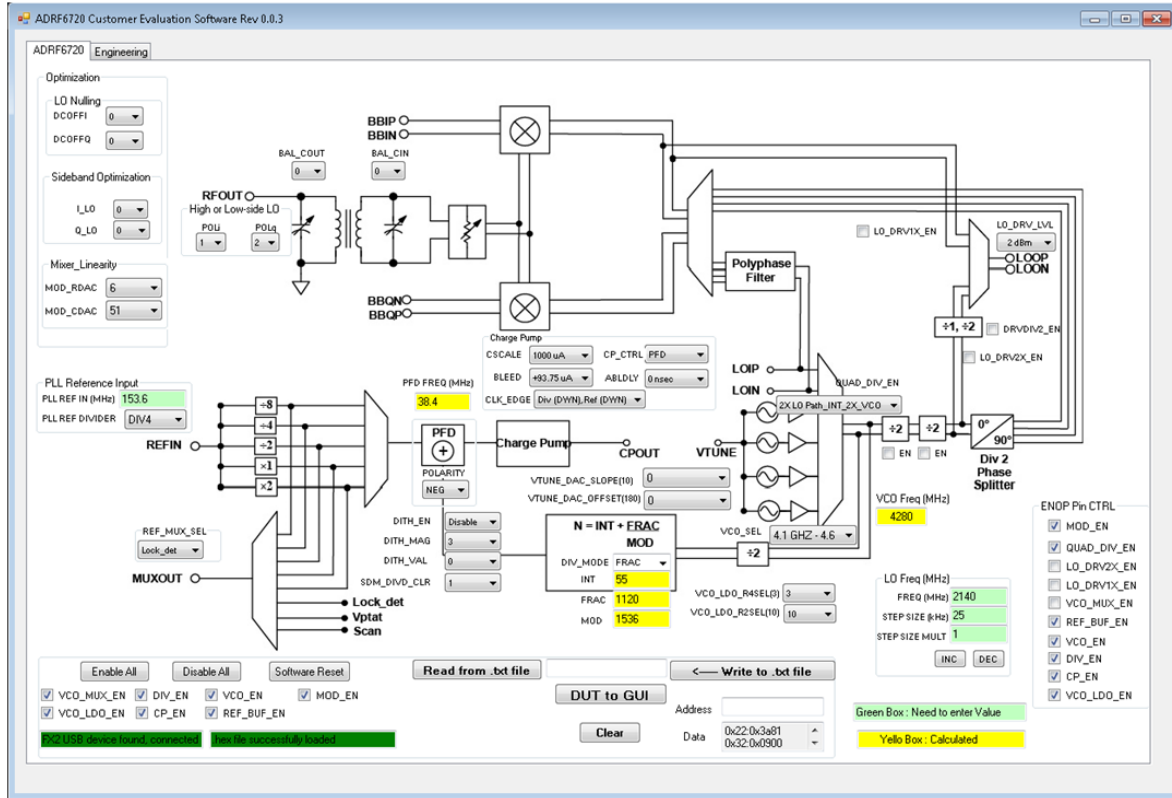

Figure 21. Setting Up the ADRF6720 Using the ADRF6720 Control Software
9. Set up the ADRF6720, as shown in Figure 21, and run. See the ADRF6720-EVALZ User Guide (UG-689).